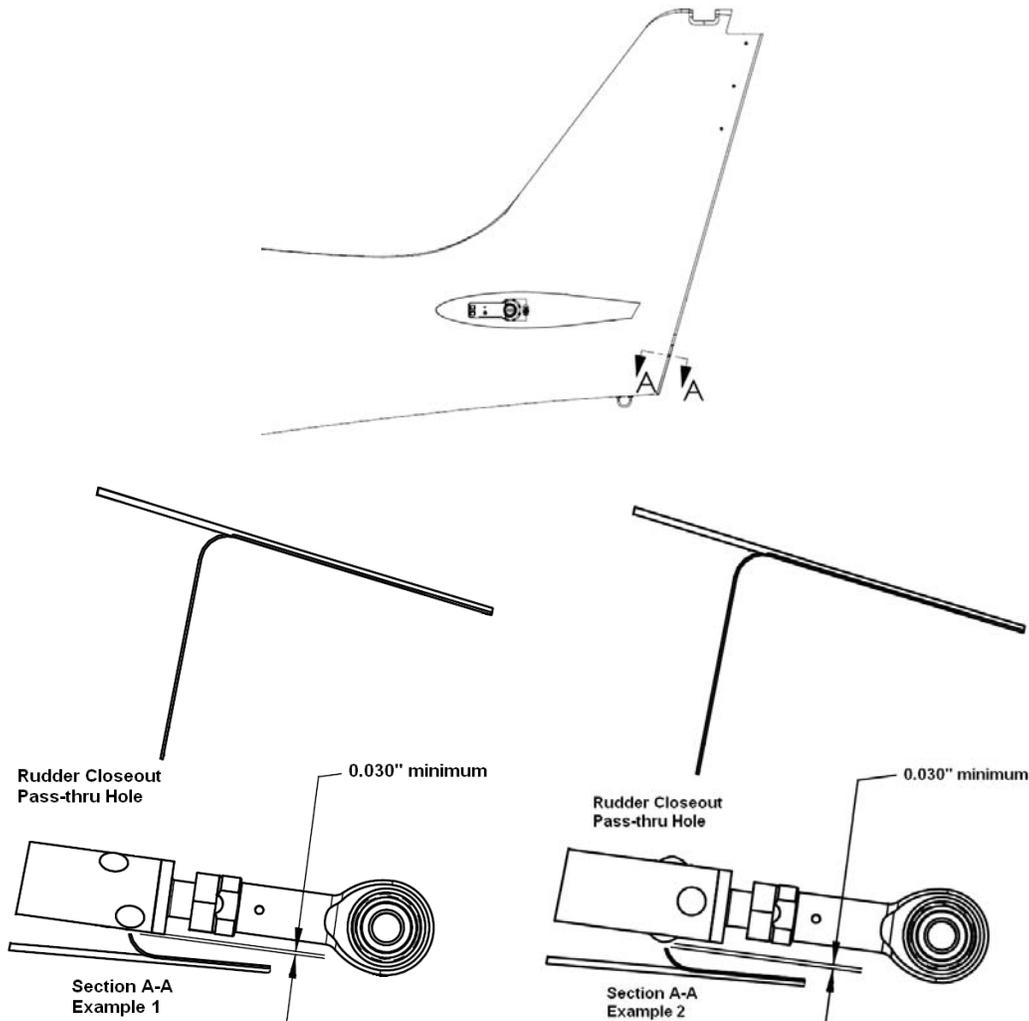

Figure 27-45 Rudder Pushrod Clearance
- Check attachment to fin and make sure the pushrod attachment meets clearance requirements. Clearance requirements are met if there are no visible signs of chafing or binding between the push rod and the composite surface. See Figure 27-45 for details. If chafing and/or binding is detected, go to the Extending the Closeout Hole for the Rudder procedure on page 57 of this chapter.